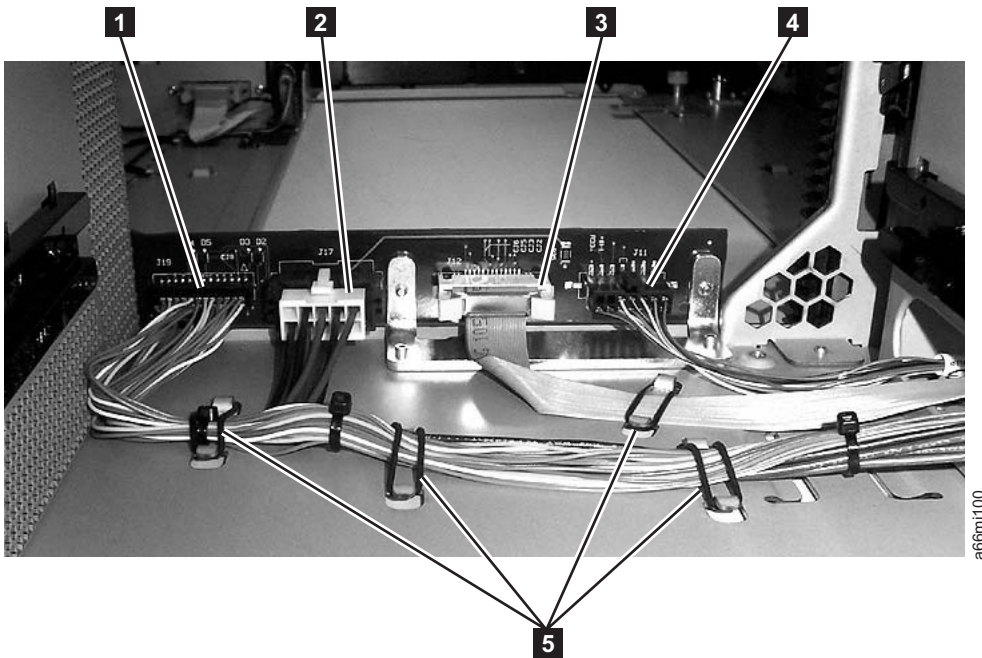

Figure 7-12. Backplane Connect Board connectors (back, drive sleds removed)
4. Visually check, and reset if necessary, all of the connectors on the back of the Backplane Connect Board. See **1**, **2**, **3**, and **4** in Figure 7-12.